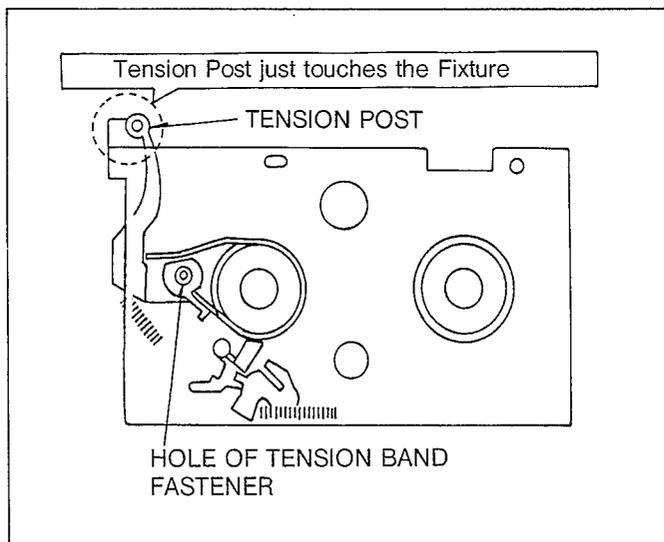

Fig. M3
4. Place the Adjustment Plate and insert the hex wrench into the hole of Tension Band Fastener as shown in Fig. M3.